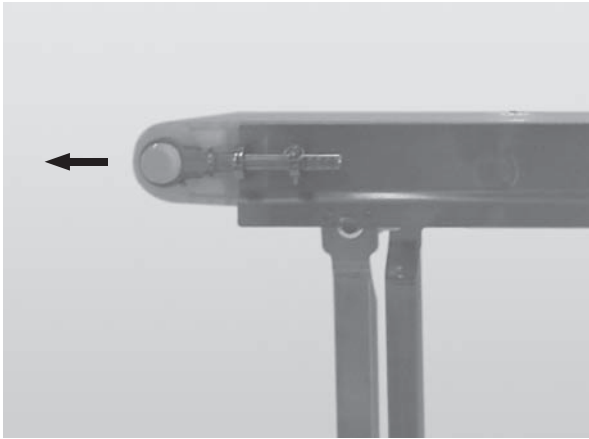

Figure 65
- Continue extending the tension end until the belt is sufficiently tight (**Figure 65**).